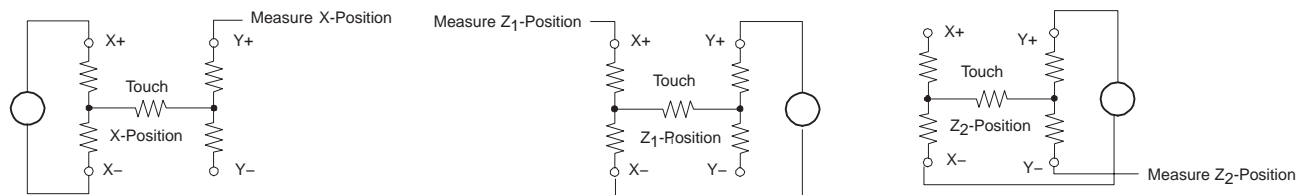

Figure 11. Pressure Measurement
Measuring touch pressure (Z) can also be done with the TSC2102. To determine pen or finger touch, the pressure of the *touch* needs to be determined. Generally, it is not necessary to have very high performance for this test; therefore, the 8-bit resolution mode is recommended (however, calculations are shown with the 12-bit resolution mode). There are several different ways of performing this measurement. The TSC2102 supports two methods. The first method requires knowing the X-plate resistance, measurement of the X-Position, and two additional cross panel measurements (Z₂ and Z₁) of the touch screen (see Figure 11). Using equation 1 calculates the touch resistance: